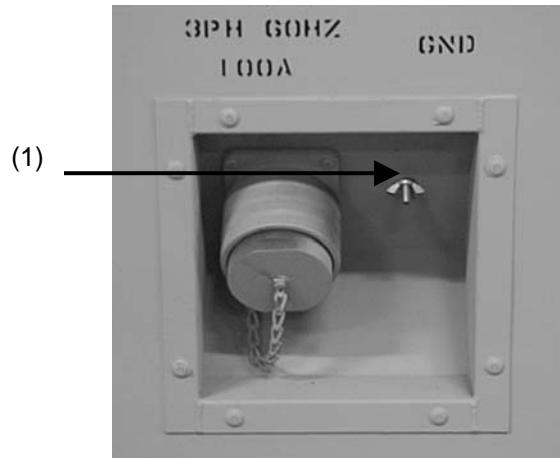

Figure 2-17. Power Input Receptacle
g. Connect grounding rod to GND terminal (1) of 120/208 VAC, 3-Phase, 60 Hz power input panel (Fig 2-17). Clamp one end of ground wire to wire clamp on rod and other end under wing nut of ground post.